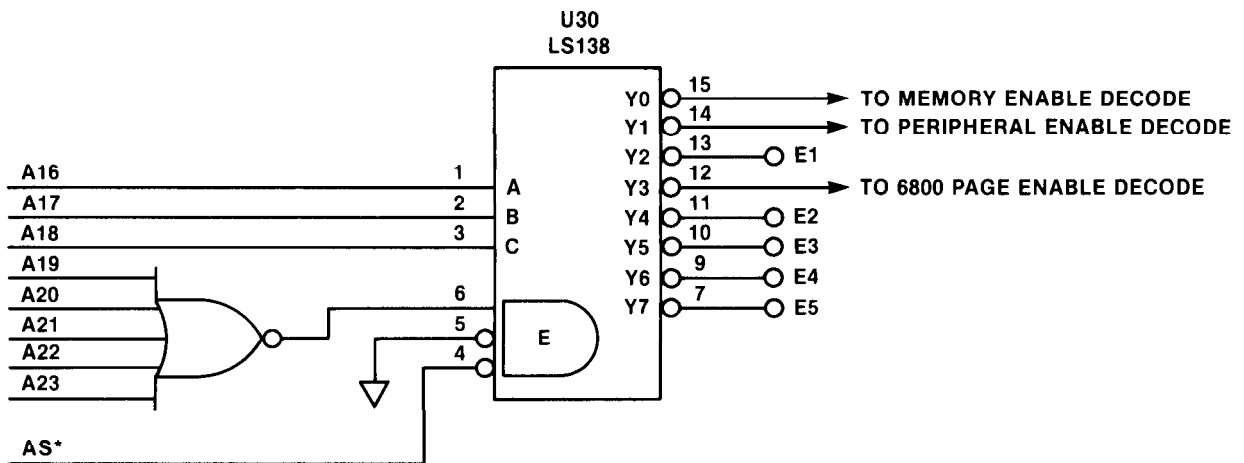

FIGURE 7-5. Address Decode Logic For Memory Map Primary Segments
- a. Connection points E1 through E5 (see Figure 7-2 for location) give decode signals for various segments of the MC68000 upper memory map. Figure 7-5 shows the address decode logic and Table 7-3 lists the decoded segments.